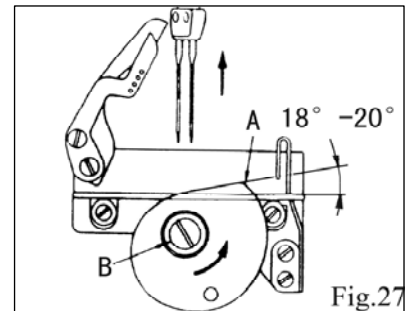

Fig.27
22. BOBBIN THREAD TAKE-UP CAM (Fig.27)
Its position can be seen as shown in Fig.27 when the needle bar is at the top dead point, the surface of the cam and the steel wire at the angle of 18° to 20° ; first loosen screw B, then make adjustment, finally